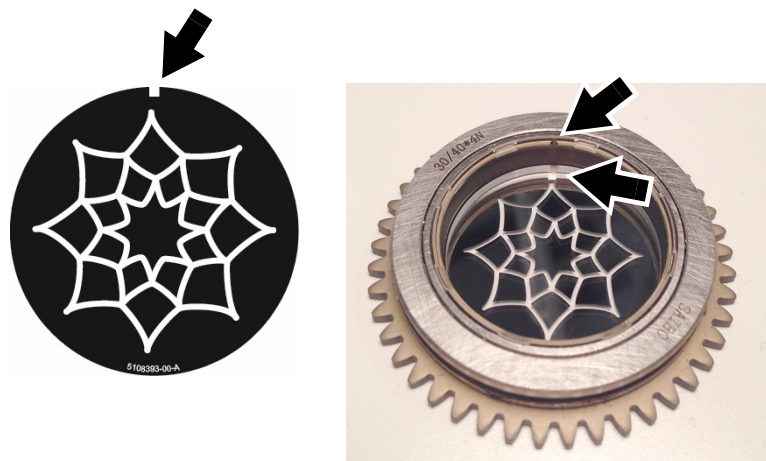
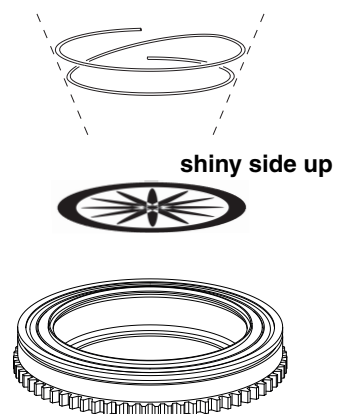

Figure 14: Gobo alignment marks
Figure 15: Rotating gobo holder
With the goboholder placed teeth down on a clean surface and the gobo retaining spring facing upwards as shown in Figure 15, gobos in the MAC Allure Profile must be installed as follows:
See Figure 14. Note the position of the alignment marks (arrowed) on gobos and goboholders. Install gobos with the alignment marks next to each other as shown.
4. Holding the new gobo by its edges, insert it into the goboholder with the alignment marks on gobo and goboholder oriented correctly and with the shiny side facing upwards, towards the spring (see Figure 14 and Figure 15).
5. Insert the spring into the goboholder with the narrow end pressing against the gobo as shown in Figure 15 (to identify the narrow end, press the spring flat: the narrow end is on the inside).